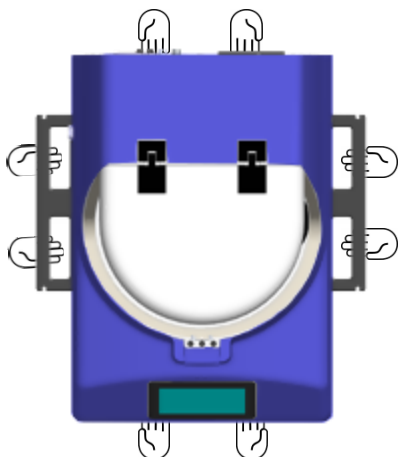

Figure 1 – Overhead View, lifting positions and handles
The LabRAM I mixer weighs 180 lb. (82 kg) with no vessel holder, payload, or additional options. The mixer should be lifted by at least four (4) people, one on each side. The two primary lifting positions are on the left and right-hand sides of the LabRAM I machine where retractable, integral lifting handles are located (Figures 1 and 2 below). Two remaining personnel can assist in lifting the LabRAM I mixer at the front and back base plate next to the machine feet. Exercise caution when lifting and moving the LabRAM I to avoid striking other objects.